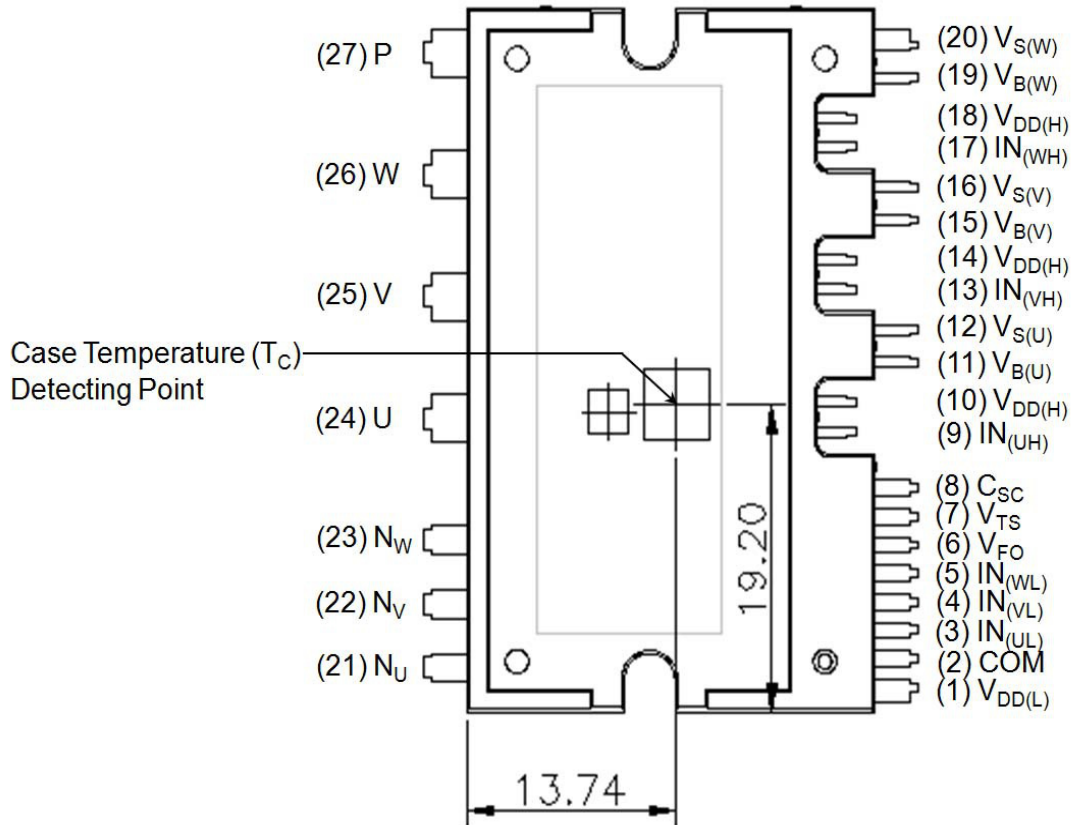

Figure 1. Top View
| T C        | Module Case Operation Temperature                                          | See Figure 1                                                                                     | –40~125 | °C               |
5. For the measurement point of case temperature (TC), please refer to Figure 1.